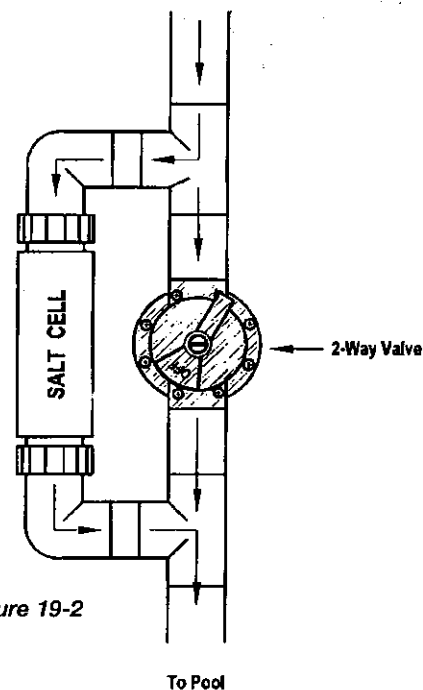

Figure 19-2
3. Due to the restriction of water flow through the salt water generator cells, it is necessary to plumb a 2" bypass around the cells with either a 2" two-way valve or a 2" ball valve. (See Figure 19-2).